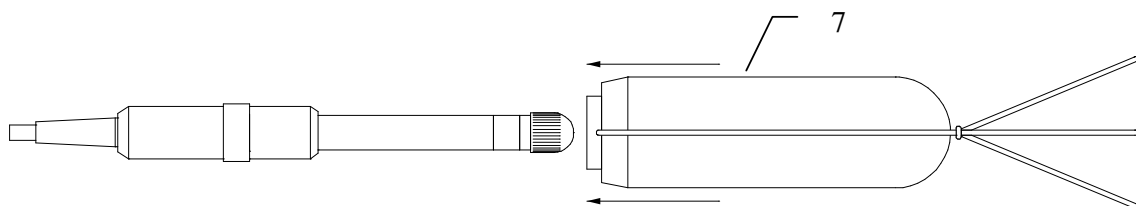

Fig. 1.5. Assembling of weatherproof accessories – step 4.
- Put TOP windscreen with anti-bird spikes (7) on the microphone assembled as above (see Fig. 1.5) until the windscreen reaches microphone holder.